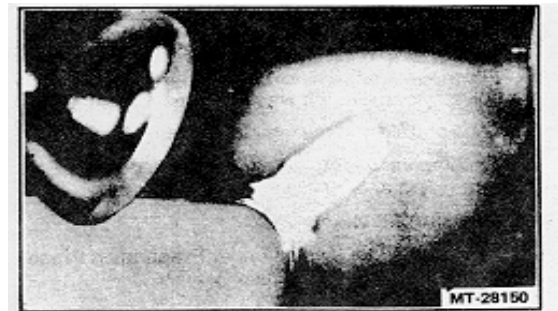

Figure 55 - Shrinking Body Filler
- Now, pre-shrink the filler, using a heat gun or heat lamp. A minimum temperature of 49°C (120°F) is required for shrinkage (Figure 55).